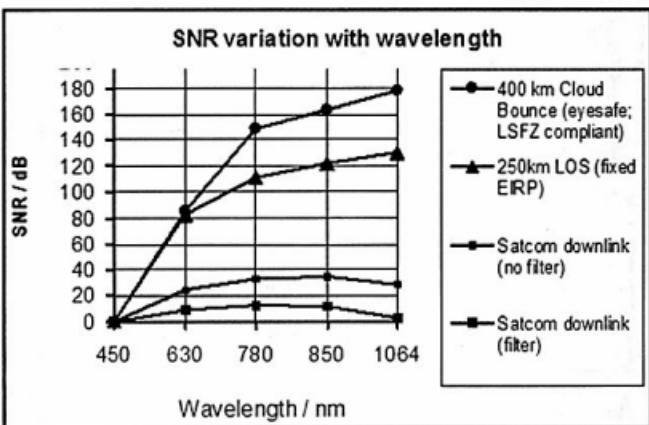

Figure 3: Indicative changes in SNR across the atmospheric window for three optical DX modes at five laser/led wavelengths.
Sky noise varies with wavelength in the same way as the sky brightness but, unlike the daytime sky, the night sky is brightest and noisiest at the infrared end of the spectrum (7). The effect of night sky noise on the best band is illustrated in Table 2 and Figure 3 for a satellite downlink. Two cases are tabled, one for a fixed noise floor, the other for a noise floor set by filtered sky noise. In this latter case the night sky noise (7) in dB has been subtracted to give the SNR variation with wavelength. Actual noise and SNR values depend on factors such as detector area and field of view, bandwidth, and modulation method.
Table 2 shows the weak signal SNR variation across the window for fixed EIRP. With no sky filter, or for a system limited by receiver noise, there is a large increase (35 dB) in SNR in moving from the blue to the optimum wavelength (850 nm). When optically filtered night sky noise is subtracted from the electrical signal the NIR band remains optimum although the variation across the window is now much less. Figure 3 shows both these cases.
Table 2 and Figure 3 show the expected variation in SNR over visible and near infrared wavelengths in clear air. Although these figures should be regarded as indicative only, they clearly show how operation in the visible band is handicapped by high air losses.